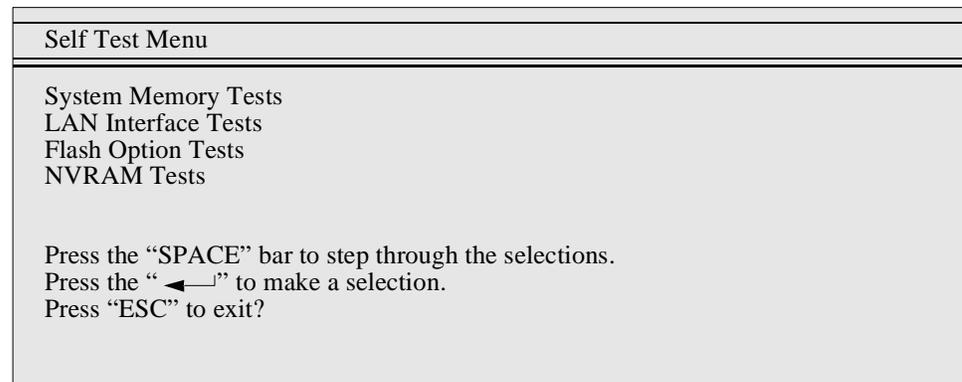

Figure 28. Self Test Menu
3. Type **selftest** at the BOOT> prompt. The Self Test Menu, shown in Figure 28, appears.